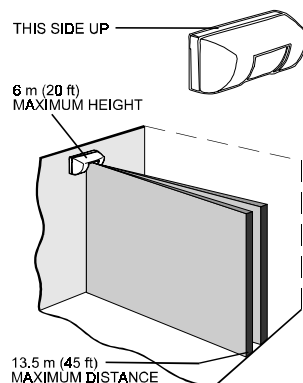

Figure 1. Wall Mounted Curtain
A. Wall Mounted (Figure 1)
The unit is installed with its long axis vertical, so that the coverage pattern will be parallel to the floor (rotated 90° from the wall mounted installation - see Fig. 1). The maximum coverage of this installation is 5 x 5 m (17 x 17 ft). The field of view is 90° extending from the unit toward the opposite wall and along the wall on which the unit is mounted in the direction that the lens is facing.